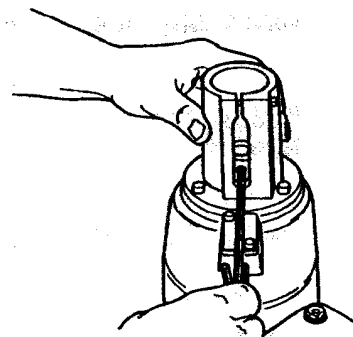

Fig.28
-Then use the Allen wrench as a slender "finger" to guide the drive hub onto the input shaft of the Speed Reducer. See Fig.28.